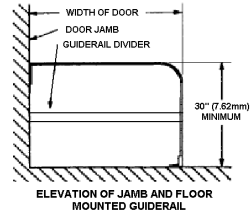

Figure 4
- 1 Guide Rails and Lock Stile – Check that the guide rails or other barriers or separators are present (two per swing door side) and firmly anchored, (see Figures 4, 5, 6).